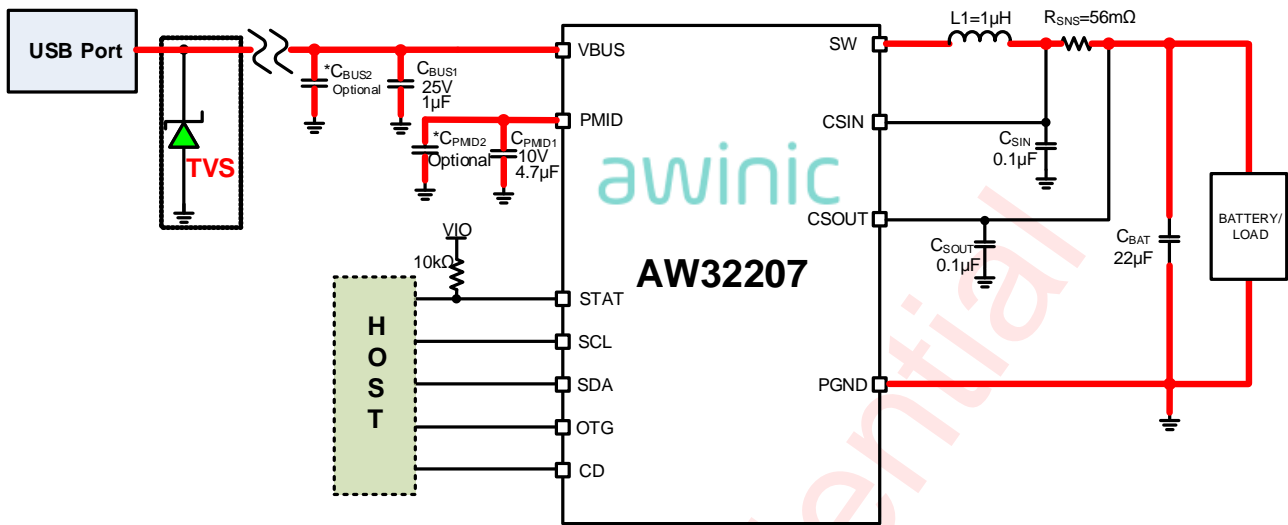

Figure 4 AW32207 Application Circuit
- 2: For the sake of driving capability, the power lines, output lines, and the connection lines of $L1$, R_{SNS} , and BATTERY should be as short and wide as possible. The power path is marked in red as shown in the Figure 4 above, please trace according to 2A power line alignment rules.
Circuit of Figure 4, $V_{BUS}=5V$, $OPA_MODE=0$, $HZ_MODE=0$, $CD_PIN=0$, $T_J=25^{\circ}C$ for typical values (unless otherwise noted)